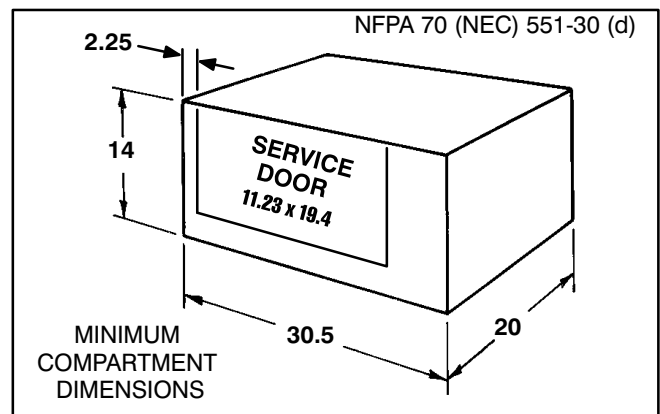

FIGURE 3-3. COMPARTMENT DIMENSIONS
1. Carefully measure the compartment size to make sure there will be proper clearance for the genset. Figure 3-3 shows the compartment dimensions. Add 1/2 inch to compartment depth if 1/2-inch insulation is used inside the door.